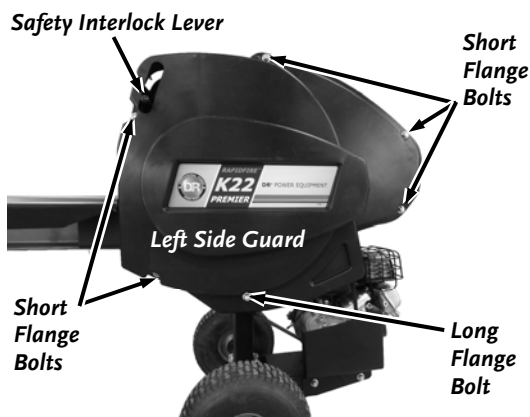

Figure 28
4. Remove the long Flange Bolt and Locknut that secures the lower portion of the Guards to the Frame using two 9/16" Wrenches (**Figure 28**).